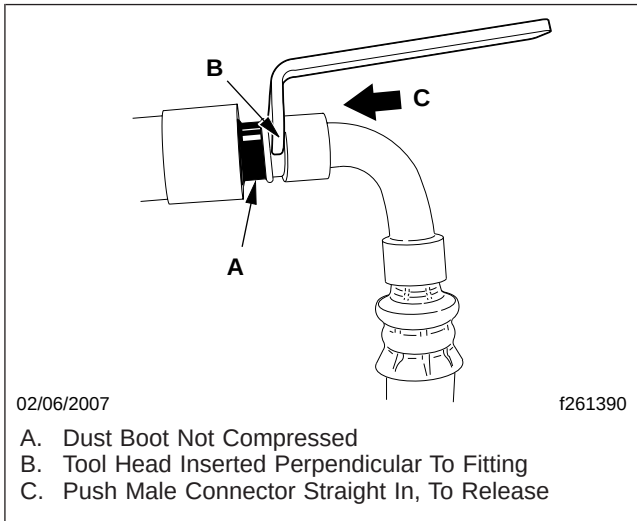

Fig. 16, Quick-Disconnect Fitting with Kent-Moore Tool J-48548 in Place
- 14.4 Insert the tool onto the fitting as shown in Fig. 16.